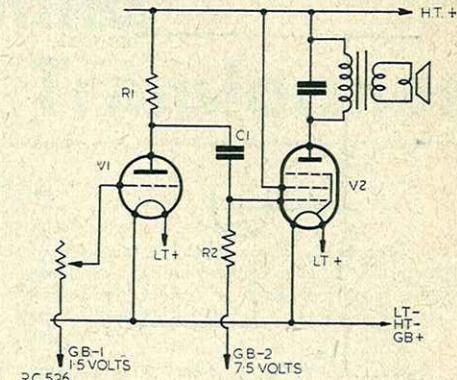
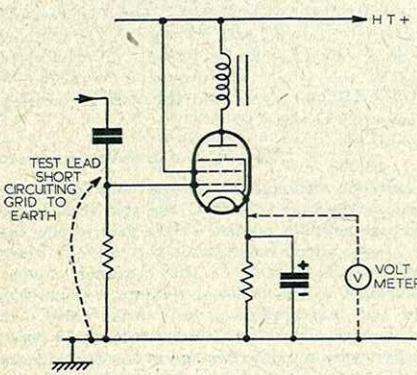
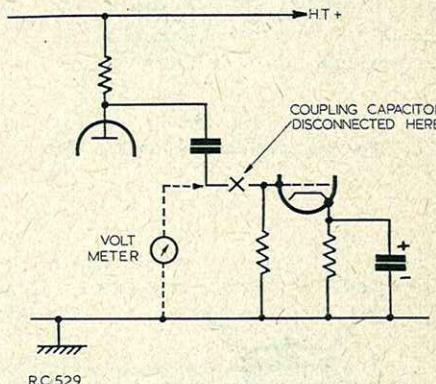

Fig. 30.
Fig. 32.
Fig. 33.
Fig. 30 gives a typical circuit of the AF section of a battery superhet. It shows a triode followed by a pentode output valve, resistance-capacitance coupling being used between the two stages. The voltages that require checking are those at
*Equivalent diagram showing how a leak in capacitor C1 in Fig. 30 may cause incorrect bias to be applied to the grid of the following valve. Values : R1=100k Ω, R2=500k Ω, R3=10M Ω.*
With the battery circuit shown in Fig. 30, it is first necessary to remove the grid-bias voltage. With the mains circuit of Fig. 32, the grid leak may be left in circuit as it is, in any case, connected to earth. In both cases, the output valves should be removed from their sockets as the electron path between cathode and grid inside the valve will effectively reduce any positive voltage found at the grid. Should the voltmeter needle, when connected, show the slightest indication that a positive voltage exists at the grid, then the capacitor may be assumed faulty and should be replaced. (It should be remembered that no accurate reading of voltage is obtainable here as
the comparatively low resistance of the meter will considerably reduce the value of positive voltage applied to the grid.) An alternative check, and one which is particularly useful in the case of AC/DC receivers in which it is impossible to remove a valve without breaking the heater chain, is to connect the meter across the cathode resistor and see if there is any change in reading when the grid of the valve is short-circuited to earth. The circuit shown by the broken lines in Fig. 32 illustrates this idea. If the biasing arrangements of the stage under consideration happen to be somewhat more complicated than those shown in Figs. 30 and 32 (e.g., the bias circuit used in some types of phase-splitter), it is best to unsolder the coupling capacitor at the end connected to the grid and simply test between its free end and chassis. See Fig. 33.